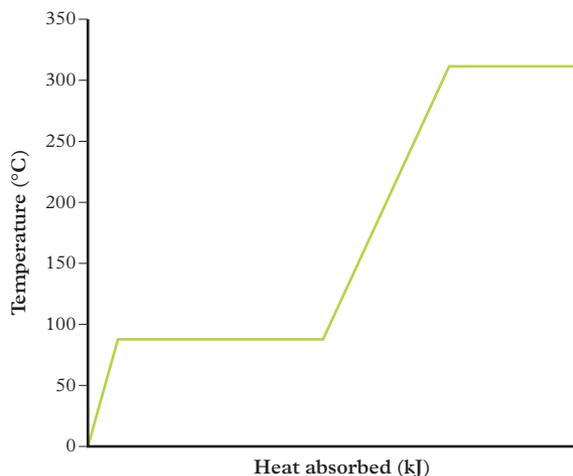

FIGURE 3 A heating curve for an unknown substance
- 22 A heating curve for 100.0 g of an unknown substance, initially a solid at -4°C, is shown in Figure 3.